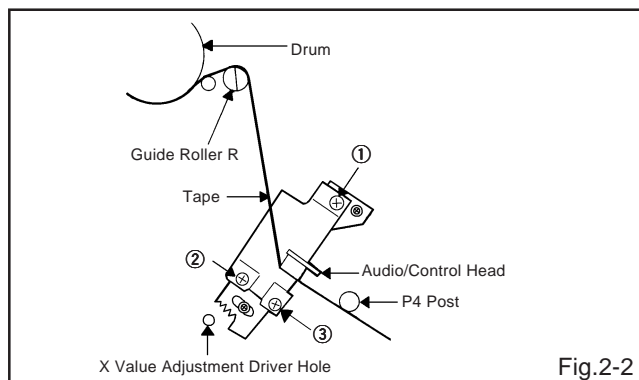
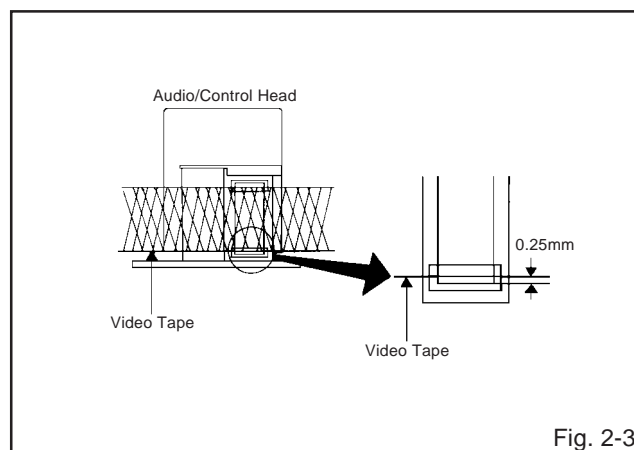

Fig.2-2
Fig. 2-3
2. Confirm that there is no crease on the tape between the P4 post and guide roller (R) and the tape is running smoothly. (It is absolutely impossible to get satisfactory sound if the tape is distorted between the A/C head and P4 post.)
3. If the tape still does not run smoothly, turn the screw ① and adjust the tilt of the A/C head. (Refer to Fig. 2-2)
2. Turn the screw ② slowly to change the azimuth of the A/C head. Adjust the height so that the audio output becomes maximum. (Refer to Fig. 2-2)
3. Adjust the screw ③, (Refer to Fig. 2-2) until the height of the A/C head reaches the position against the tape as shown in Fig. 2-3.
4. When the control head height is not correct. (When you must turn the screw more than 45 degrees), Turn all of the screws ①, ② and ③ to the same degrees. Then confirm the angle of the audio/control head and adjust again.